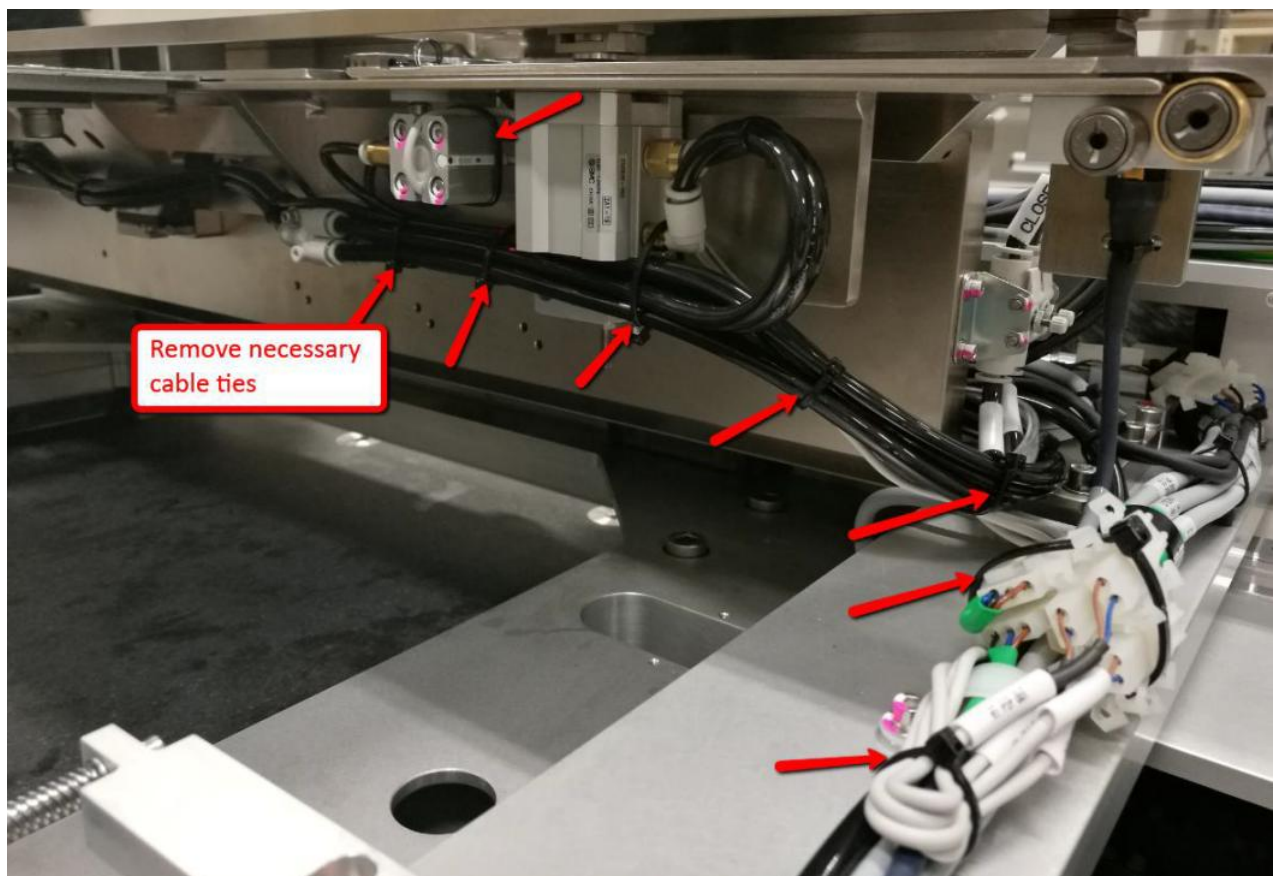

Figure 4 Cable Ties Removal
5. Remove necessary cable ties as Figure 4